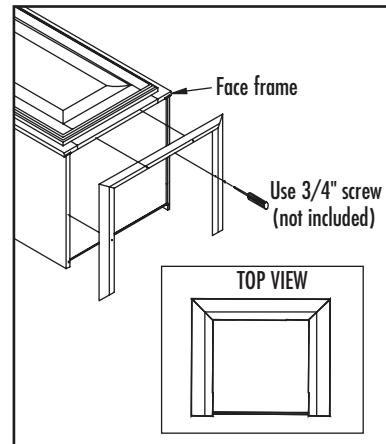

Figure 26
To install, simply set the molding on top of the cabinet. Make sure the molding is aligned side to side on the face frame. Additionally, make sure the front, bottom edge of the crown molding lines up with the outer edge of the door. Mark pre-boring locations on face frame with a pencil. Drill into face frame with a 3/16" drill bit. Screw crown to cabinet using #6 x 3/4" wood screws (not included) (Figure 26).
- Screw crown to cabinet using #6 x  $\frac{3}{4}$ " wood screws (not included). Refer back to Figure 26 of Step 11 for diagram.